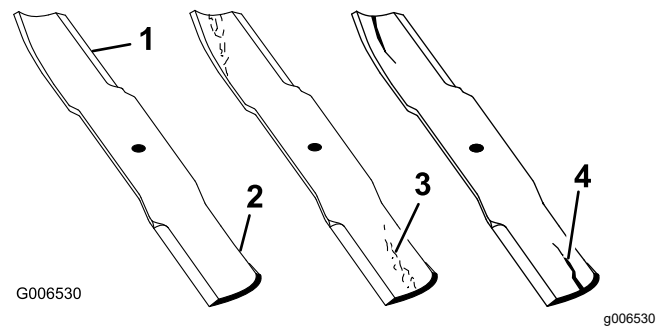

Figure 84
1. Inspect the cutting edges (Figure 84).
4. If you notice any cracks, wear, or a slot forming in this area, immediately install a new blade (Figure 84).